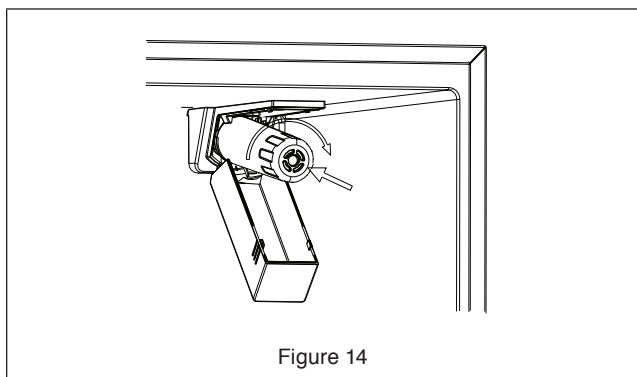

Figure 14
3. After removing the filter cap from the water filter, install it at the joint position by rotating clockwise until it is securely locked. See Figure 14.